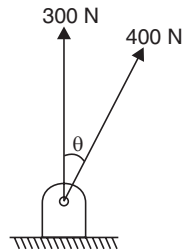

Fig. 2.47
**Example 2.29.** Two forces 400 N and 300 N act at a point as shown in Fig. 2.47. The resultant of the two forces is 600 N. Determine the angle  $\theta$  between the forces and direction of the resultant.